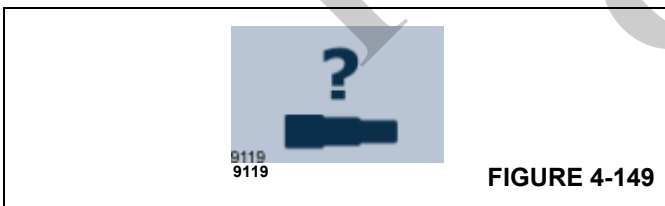

FIGURE 4-149
- Enter the request reset telescoping screen. (Figure 4-149) shows the icon for this screen.